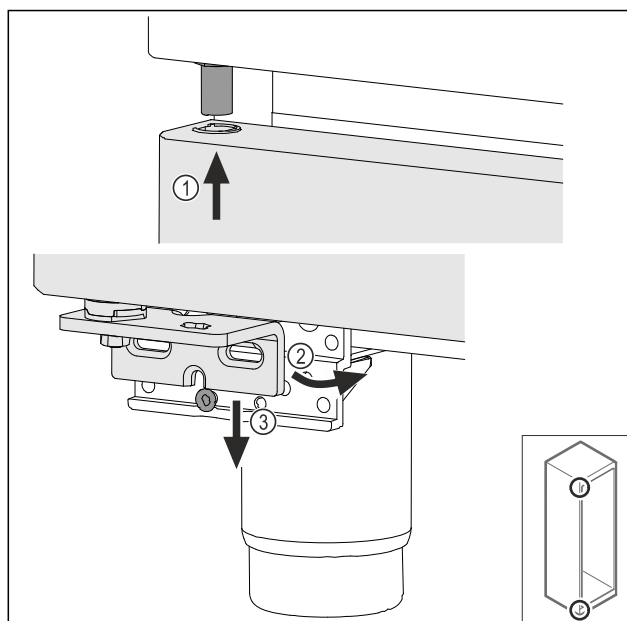

Fig. 34
- ▶ Insert the door slightly tilted at the top Fig. 34 (1), align the door straight Fig. 34 (2) and place it on the bottom of the swap bearing block screw Fig. 34 (3).